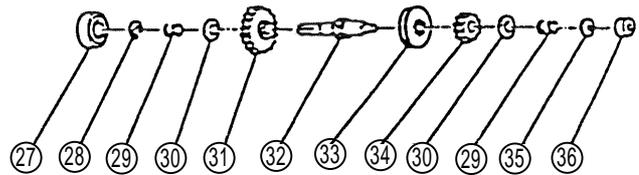

Fig. 17
(4) Reassembly of the Second Pinion Portion:
- [1] Assemble the parts from the Ball Bearing ⑳ to the D4 x 7 Metal ㉞ in proper sequence. (Fig. 17)